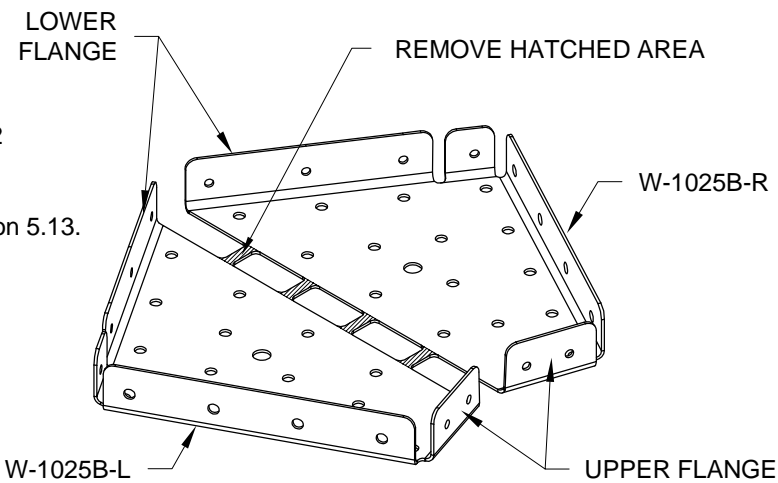

FIGURE 1:
Step 1: Separate the W-1025B Flap Hinge Ribs into W-1025B-L & -R Flap Hinge Ribs as shown in Figure 1.